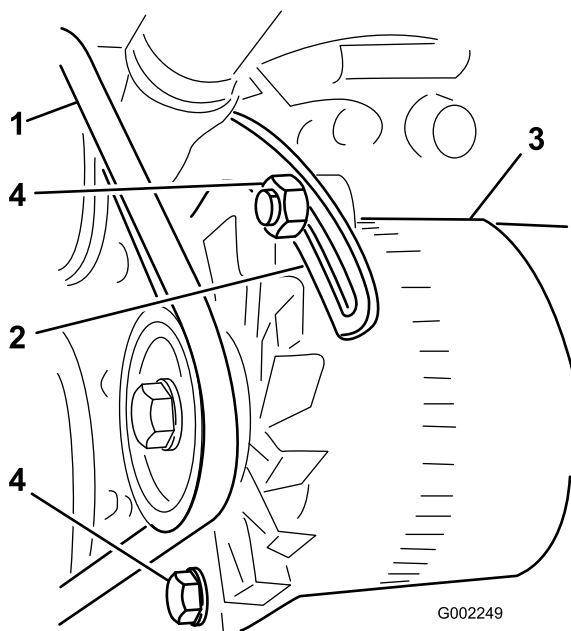

Figure 138
3. Loosen the bolt at the pivot point of the alternator; loosen the bolt that secures the alternator to the slotted brace (Figure 138).